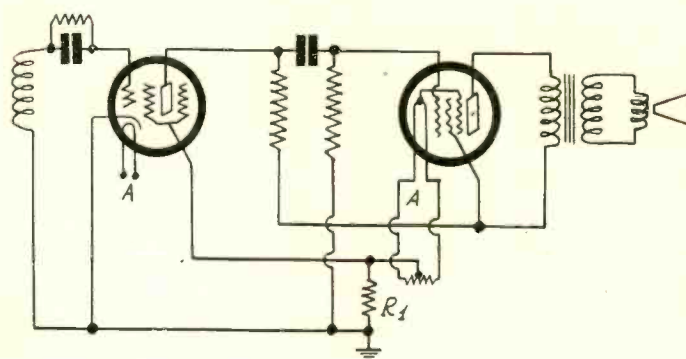

FIG. 3
If the circuit has a grid leak type detector and only one audio stage, there will be no R1 in it, so the circuit would have to be altered. Fig. 3 shows one way in which this was done, where the filament positive B voltage of the 247 is used as the screen voltage of the detector, or the bias may be taken in the same manner for a negative biased detector (224), as shown in Fig. 4.
The same system as in Fig. 3, applied to the screen grid tube.